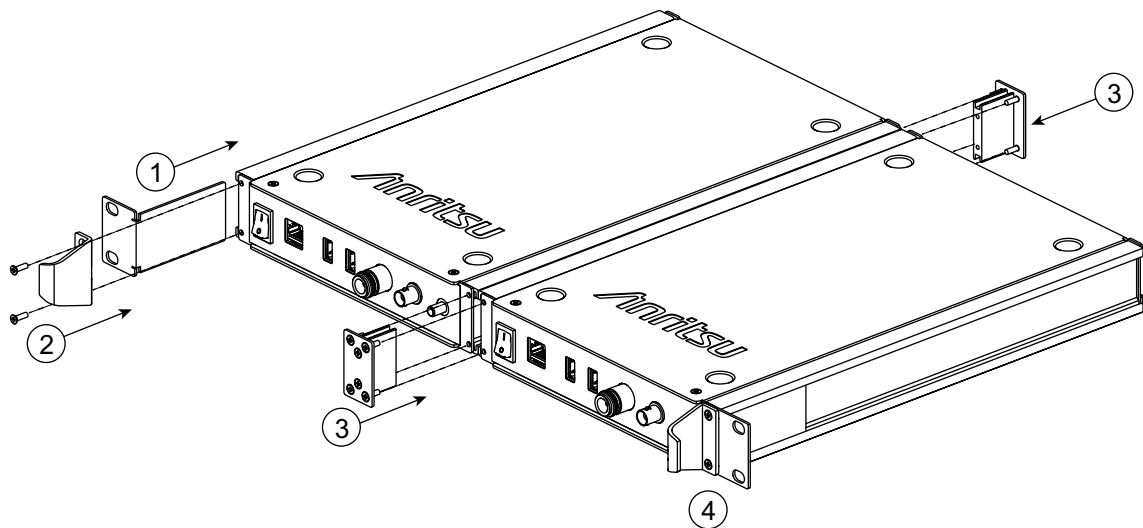

Figure 1-6. Installing the MS27101A Side-by-Side Mounting Brackets
3. Slide the mounting brackets into the aluminum extrusions as shown in Figure 1-6 (1 and 3), then reinstall the front panel handles (2 and 4) using the same screws that were removed in Step 1.